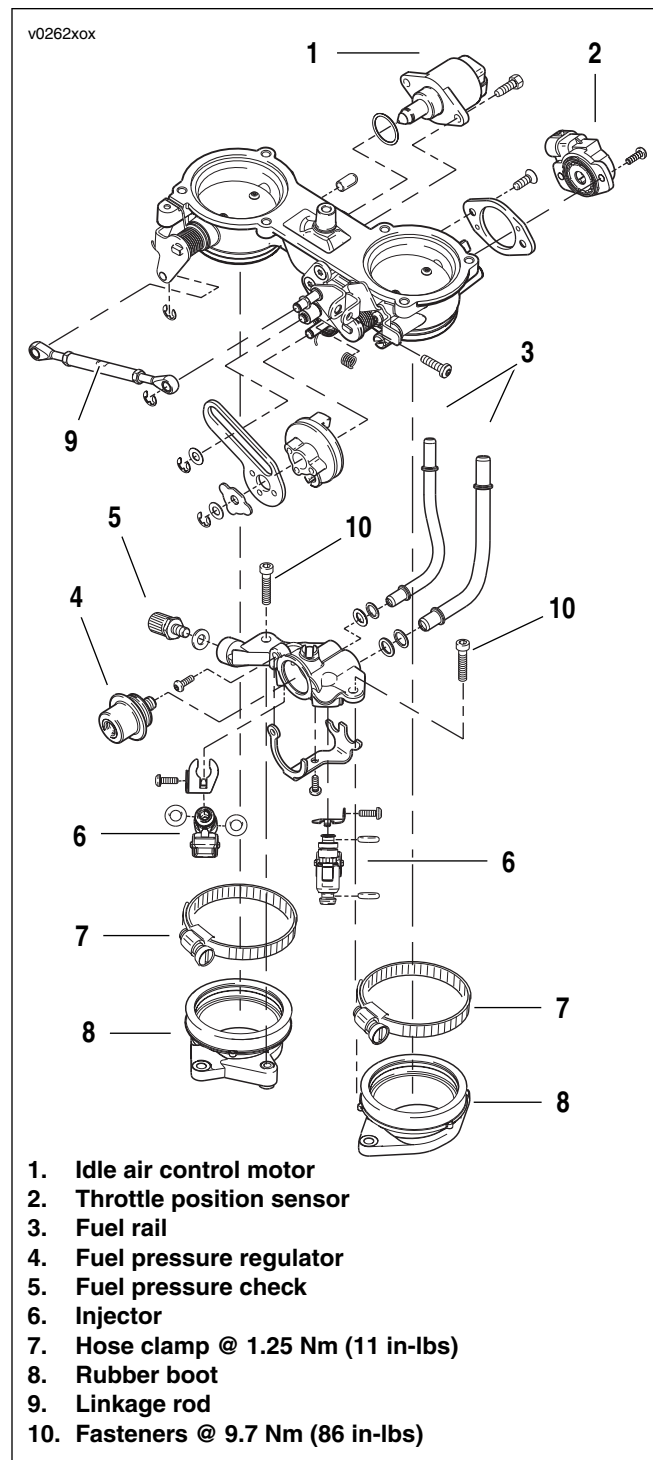

Figure 3-17. Throttle Body and Fuel Rail
11. See Figure 3-17. Tighten intake hose clamps (7) to 1.25 Nm (11 in-lbs).
14. Attach the throttle position (TP) sensor.